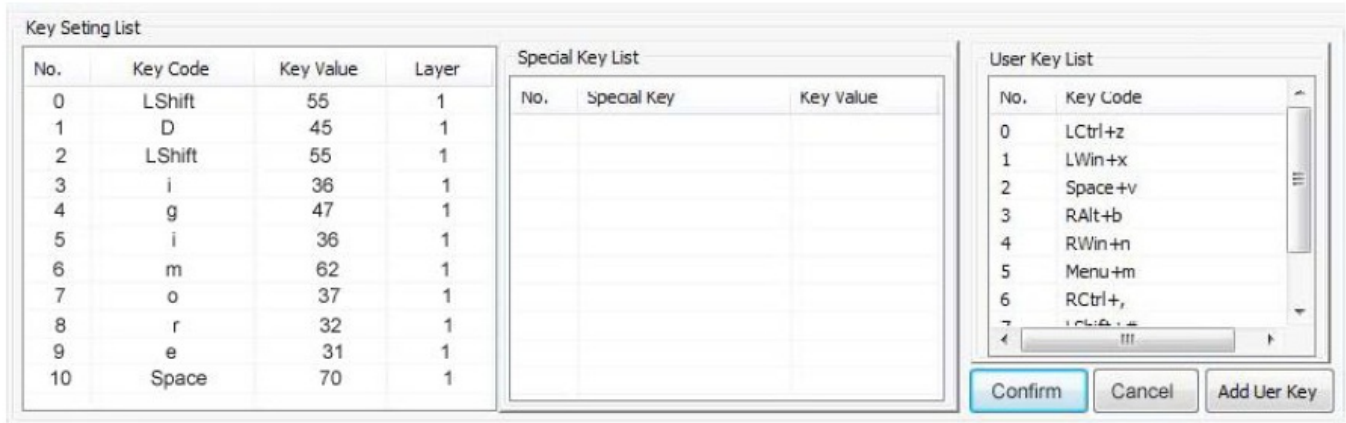

Figure 3.2.1
Step 2. Click “LShift” and “d”. You will see the key code will be capital “ D “ not “ d ”, please refer to Figure 3.2.1